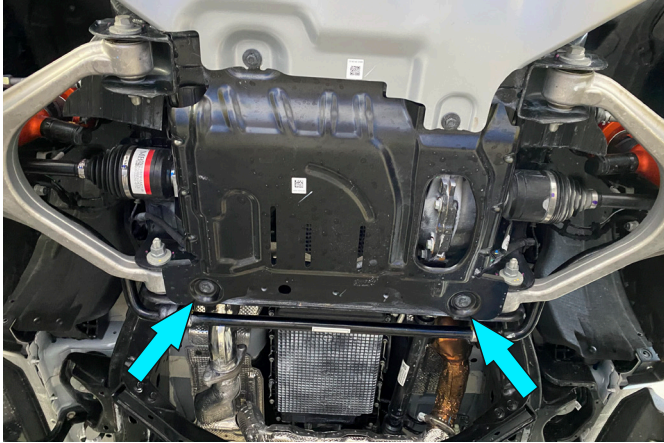

Fig. 1
1. Loosen the rear bolts of engine skid plate or bolts of RIVAL engine skid plate 1885.1 (fig.1).